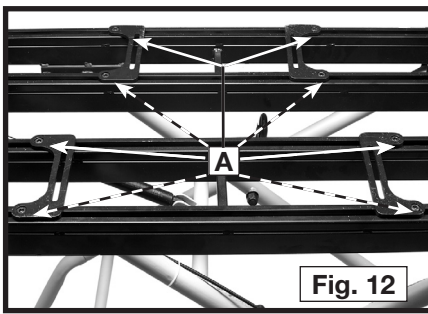

Fig. 12
1. Loosen (but do not remove) the hex nuts on each of the moveable connector bases (A) Fig. 12.
4. Securely tighten the wing nuts (A) Fig. 13 and the hex nuts on the connectors (A) Fig. 12.